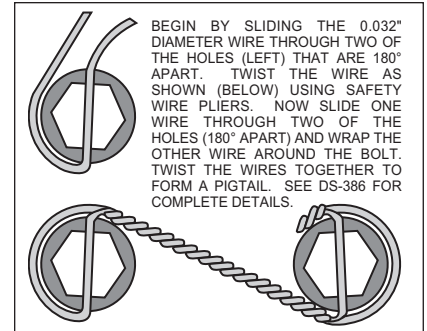

Figure 5. Safety Wire Diagram
- Align the correct hole pattern in the rotor (3) with the stud pattern on the axle flange. **NOTE:** Some OEM and after market axles come with stud sizes larger than 0.50" diameter. Verify stud size and have a qualified machine shop drill the hat section of the rotor to the correct size, if necessary. Slide the rotor (3) over the wheel studs covering the mounting bracket assembly (1) and against the axle flange face.
- NOTE:** Please reference the caution statement at the beginning of the assembly instructions. WITH THE BLEED SCREWS POINTING UP, mount the caliper (4) over the rotor (3) and onto the caliper mounting bracket (1) using lock washers (5) and mounting bolts (6). View the rotor through the top opening of the caliper. The rotor should be aligned in the center of the caliper. If not, adjust the caliper by using 0.032 inch shims (7) by placing them between the caliper mounting bracket (1) and the caliper (4). Apply red *Loctite*® 271 to the mounting bolt threads (6), torque to 30 ft-lb. Safety wire the caliper mounting bolts (6) using standard 0.032 inch diameter stainless steel safety wire as shown in Figure 5, next page. Please refer to Wilwood's data sheet DS-386 (available at www.wilwood.com/pdf/ds386.pdf) for complete safety wire installation instructions.